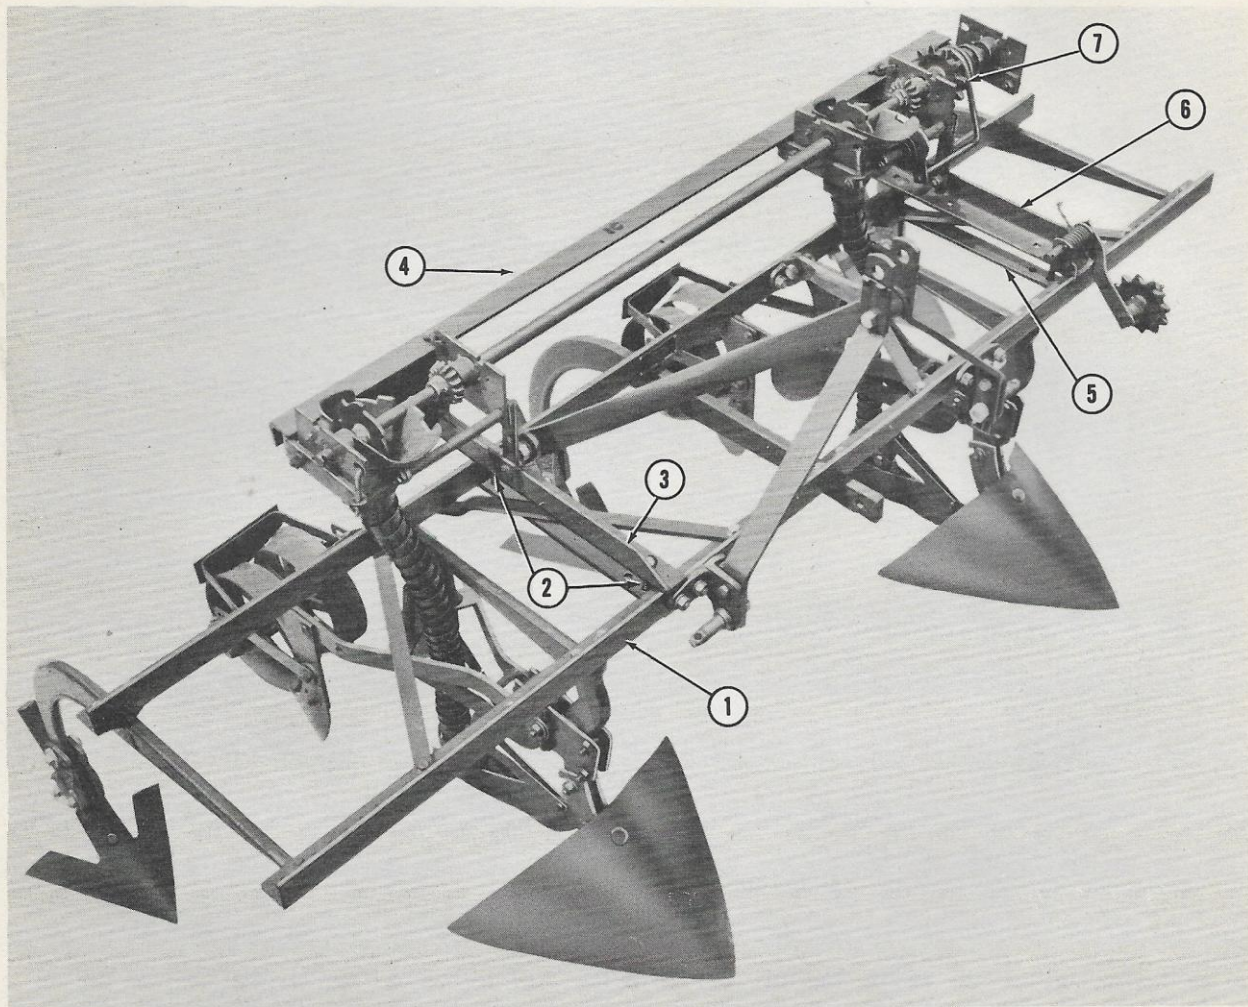

Figure 9
- a. Remove the lower clamp bars (5), Figure 9, and long bolts from the right and left main frame support angles.
- b. Place the planter main frame assembly (4), Figure 9, on top of the cultivator frame so the forward end of each support angle (3) and (6) rests on the front angle (1) of the cultivator frame as shown.
- c. Position the planter main frame assembly on the cultivator frame so the clutch sprocket (7), Figure 9, is aligned with the drive sprocket on the tractor left rear brake drum.
- d. Insert the long bolts (2), Figure 9, through the support angle (3) and (6) as shown.
- e. Replace the lower clamp bars (5) under the cultivator frame angles as shown in Figure 9 and secure with nuts.